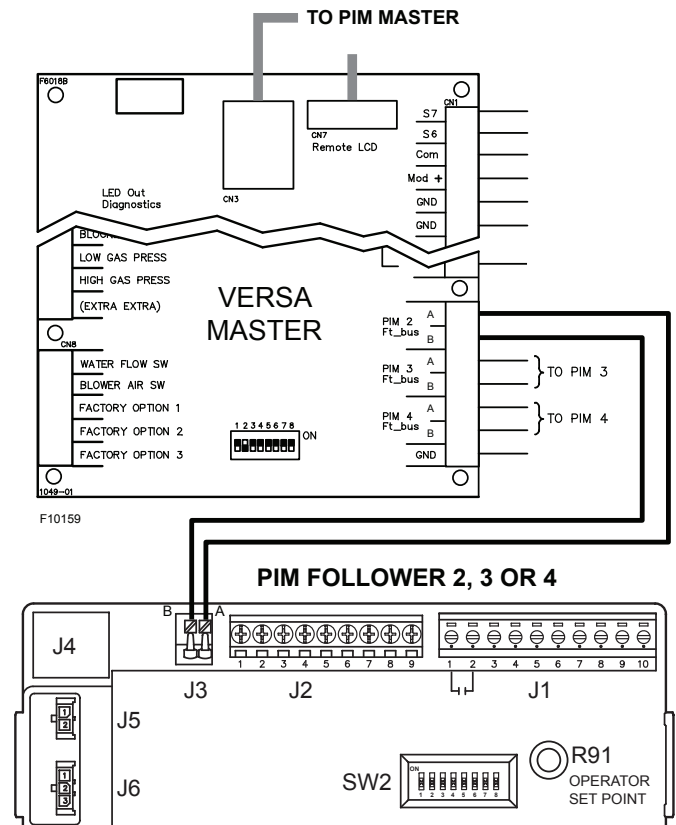

Figure 44. XVers Cascade System Wiring
1. Designate the primary boiler as the master boiler/boiler1 by leaving DIP switch 2 on the VERSA in the ON position. All other VERSA controls require DIP switch 2 to be toggled OFF, designating them as followers. Follower VERSA boards are ignored by their corresponding PIM modules. Use standard 18 AWG wire to connect the master VERSA to the PIM on the followers. A total of 3 followers can be connected to the VERSA on the master. For systems requiring more than 4 connected boilers, an external sequencer such as the Raypak Temp-Tracker Mod+ Hybrid can be used. See **Figure 44**.
The operator Set Point potentiometer (See **Figure 44** - located adjacent the PIM dip switches) is used to control the operating set point in a "limp-along" operation. This is the target outlet temperature used in the firing rate calculations.